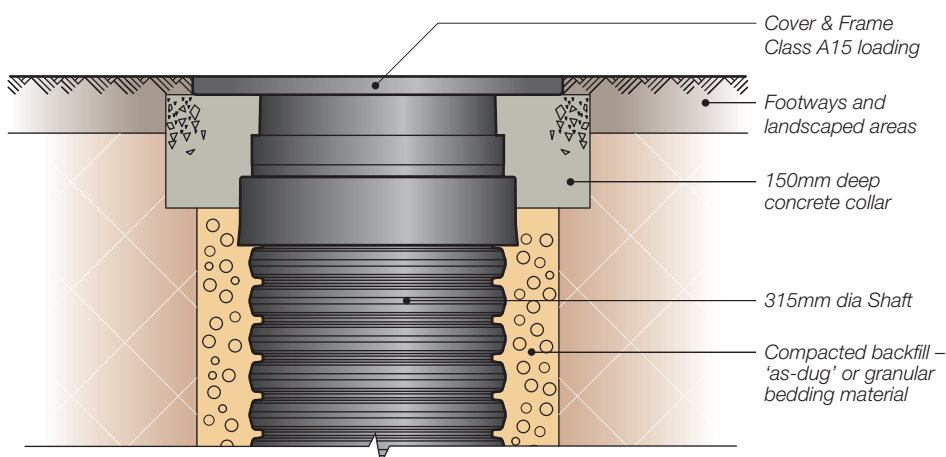

Fig.6. Installation detail A15 – areas subject to occasional vehicle loading up to 15kN (1.5 tonnes)
For A15 applications subject to occasional/temporary vehicle loading up to 15kN (1.5 tonnes) such as domestic driveways, the frame should be supported by a concrete plinth. (See **Fig. 6**).
*For A15 applications subject to occasional vehicle loading up to 15kN (1.5 tonnes) (See **Fig.6**)